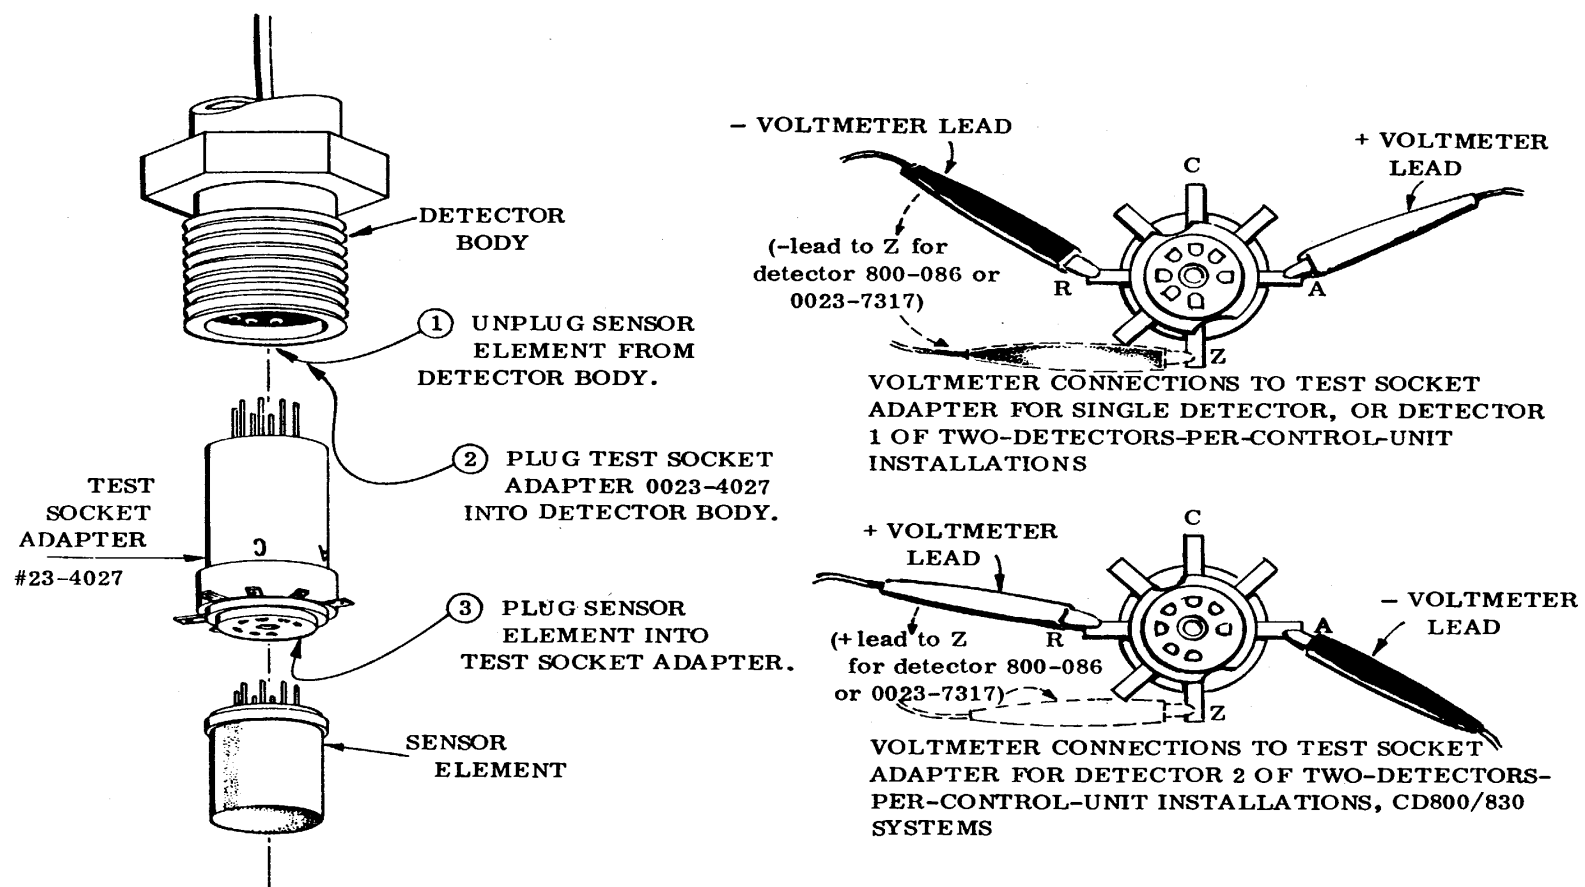

Figure 2-24. Use of Test Socket Adapter 0023-4027 to Determine Detector Operating Voltage
- 3. Remove sensor element from socket (all detector models) and plug in Test Socket Adapter #0034-4027. Plug sensor element into adapter socket (Figure 2-24). Turn on power.